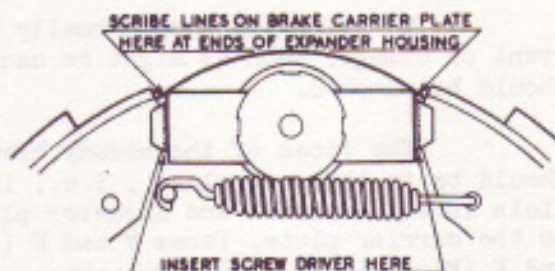

FIG.19. CHECKING FLOAT OF EXPANDER UNITS.
- (a) Remove the brake drum and mark the position of the expander unit relative to the carrier plate, by scribing lines at the ends of the expander housing, or by any other convenient method. See Fig.19.